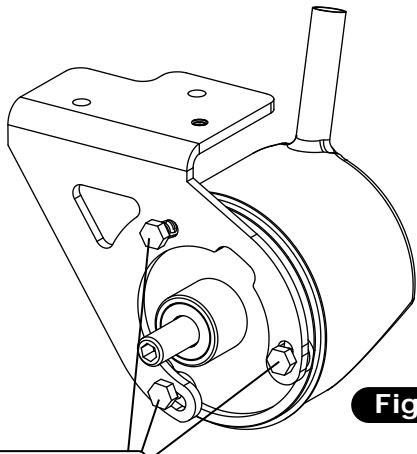

Figure 3
6. Secure the pump to bracket using (3) 3/8-16 x 1" hex bolts (See Figure 3, below).